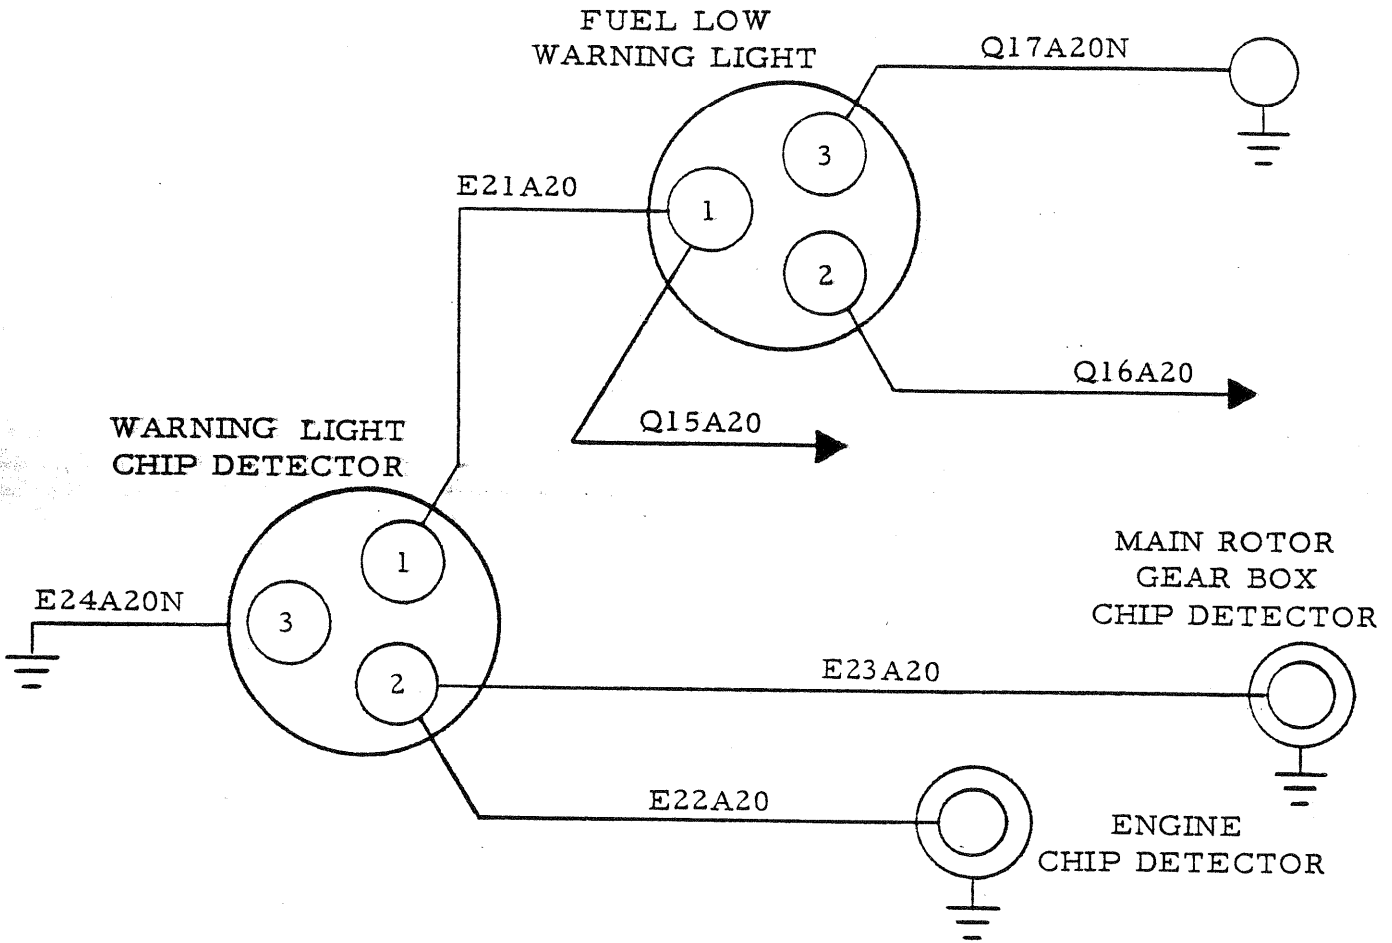

Figure 3
- k. Install and connect wiring between two detector units and light. (See Figure 3)